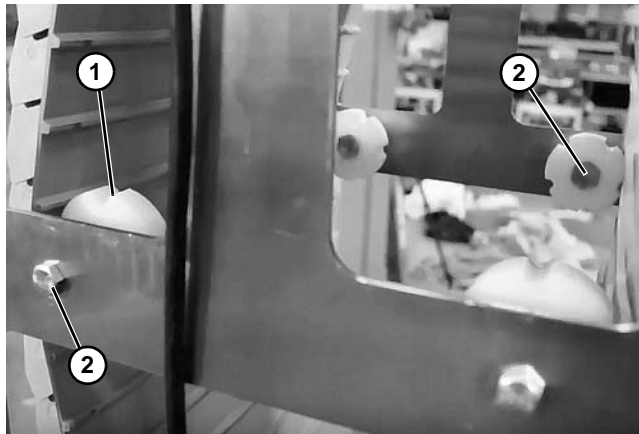

Figure 73
27. Install the scalloped return roller (Figure 73, item 1) to the frame with hardware (Figure 73, item 2).